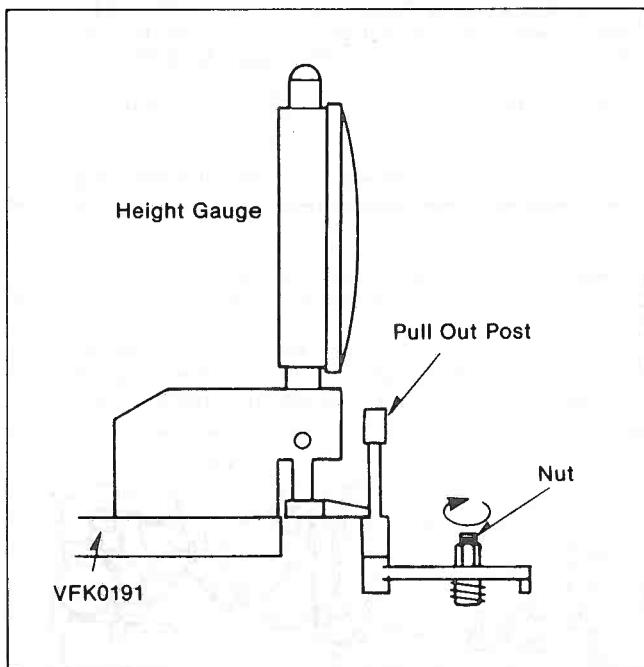

Figure M16
5. Place the Reel Table Height Gauge as shown in Figure M16 and turn the nut slowly until the gauge reads $-0.06 \pm 0.01\text{mm}$.